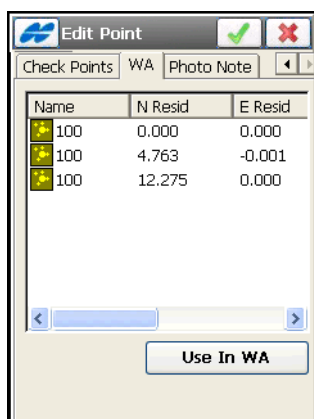

Figure 6-7. Weighted Average
9. When editing a point which has a station available for Weighted averaging, the WA tab will display on the *Edit Point* screen. The WA tab displays coordinate residuals of the check point. Tap the **Use In WA/Exclude from WA** button to control either to use or not to use the station as a weighted average (see Figure 6-7 on page 6-6).